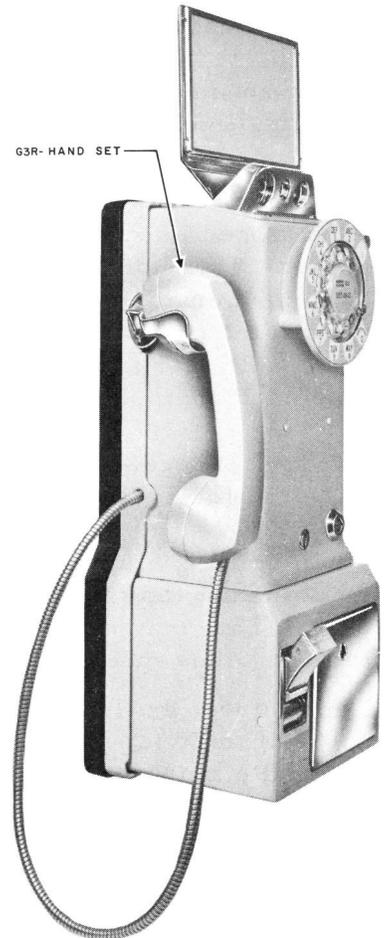

Fig. 1 - 233-Type Coin Collector
- 2.06 All new coin collectors and all 200-type reissued coin collectors will be equipped with the G3R hand set (Fig. 1).
Use the following procedures to equip existing coin collectors in the field with G3R or F1L hand sets (Fig. 1):